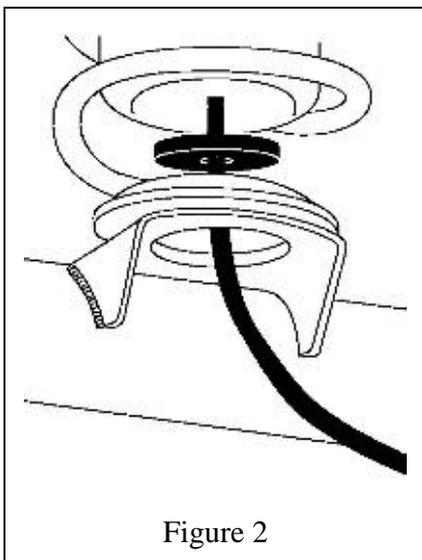

Figure 2
The small spacer is then placed on the bottom hole of the spring retainer with the tubing through the middle. See **Figure 2**.
7. Push cylinder to the bottom of the coil and insert protector on top of the cylinder (barb stem end) as shown in Figure 2.